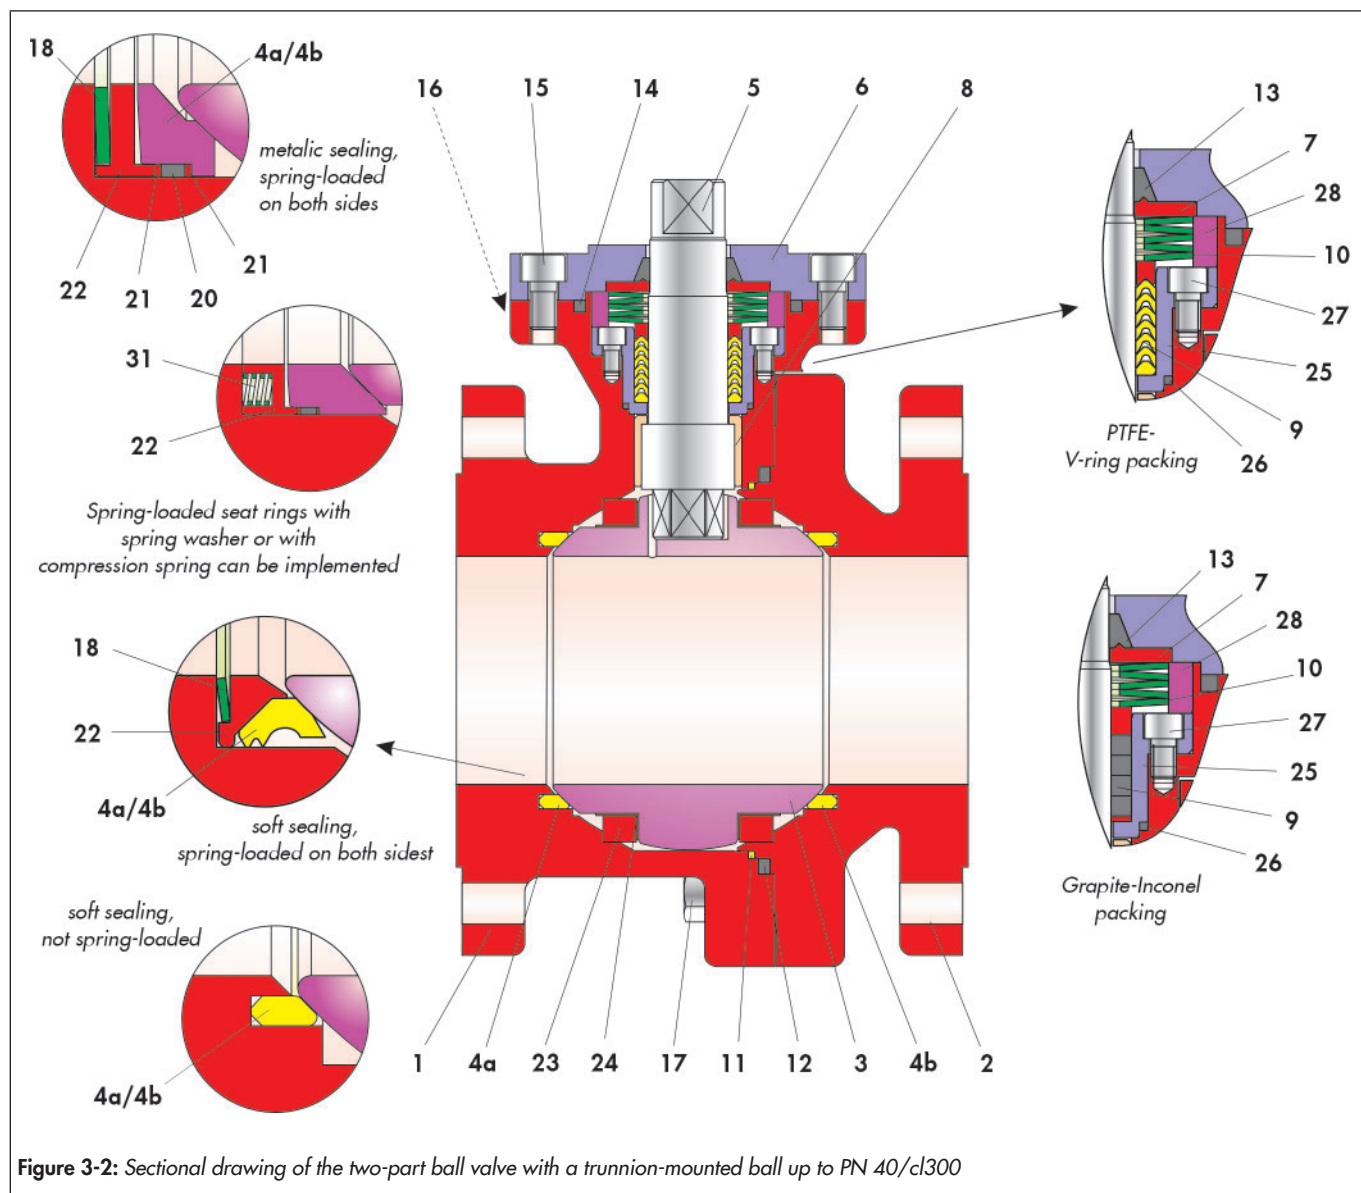

Figure 3-2: Sectional drawing of the two-part ball valve with a trunnion-mounted ball up to PN 40/cl300
The position and arrangement of the individual parts shown in Figure 3-2 must be observed during assembly.
- ⇒ Do not damage the sealing surface of the switching shaft (5).
- ⇒ Position the bearing bushing (8) with the switching shaft (5) into the ball support (3) without twisting it.
- ⇒ Insert the ring (26) into the packing bearing (25).
- ⇒ Fill the packing bearing (25) with V-ring packing or graphite packing (9). Arrangement of the V-sleeves see Figure 3-2.
- ⇒ Push the preassembled packing bearing with a slightly rotary movement without excessive force over the assembled switching shaft (5).
- ⇒ Screw the packing bearing together with screws (27) evenly and in a criss-cross pattern.
- ⇒ Place the centring ring (28) on the packing bearing.
- ⇒ Place the set of spring washers (10) in the centring ring on the packing (9). Arrangement of the spring washers, see Figure 3-2.
- ⇒ Push the bushing (7) over the switching shaft (5) such that it lies on the spring washers (10).
- ⇒ Push the carbon-graphite ring (13) carefully over the switching shaft (5) up to the bushing (7).
- ⇒ Insert the carbon-graphite ring (14) into the groove of the stuffing box flange (6).
- ⇒ Place the stuffing box flange (6) over the switching shaft (5) onto the base body (1).
- ⇒ Lightly grease the screws (15).
- ⇒ Evenly adjust the stuffing box flange (6) with the screws (15) and tighten in a criss-cross pattern.